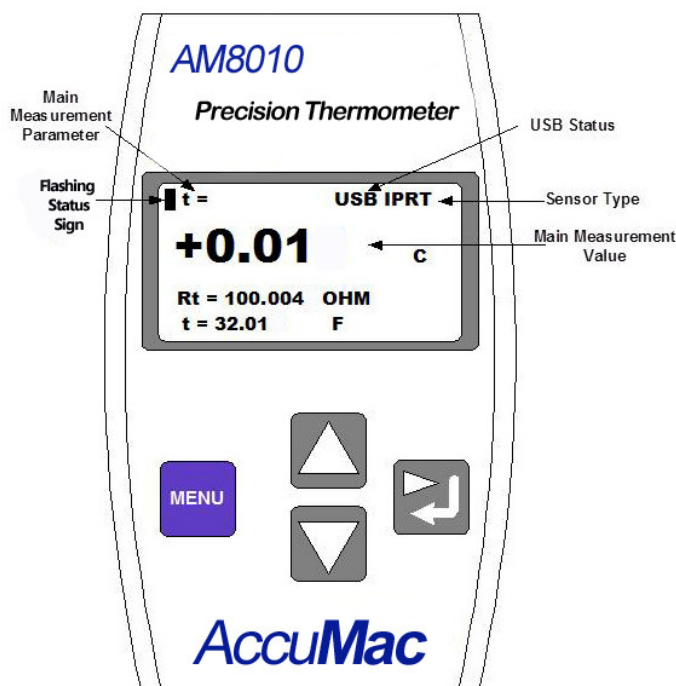

Figure 3-1: AM8010 Front Panel
Figure 3-1 shows the front panel of AM8010 and its parameter display. There are four function keys that are defined as followings:
The temperature measurement results are displayed on the LCD screen. There are four lines of information as shown in Figure 3-1. The main information is temperature in Celsius (C), Fahrenheit (F) and sensor resistance (OHM). The other information includes sensor type, USB connection status, battery low status and no sensor indications.
As shown Figure 3-1, the top line is the status information line. The information includes: